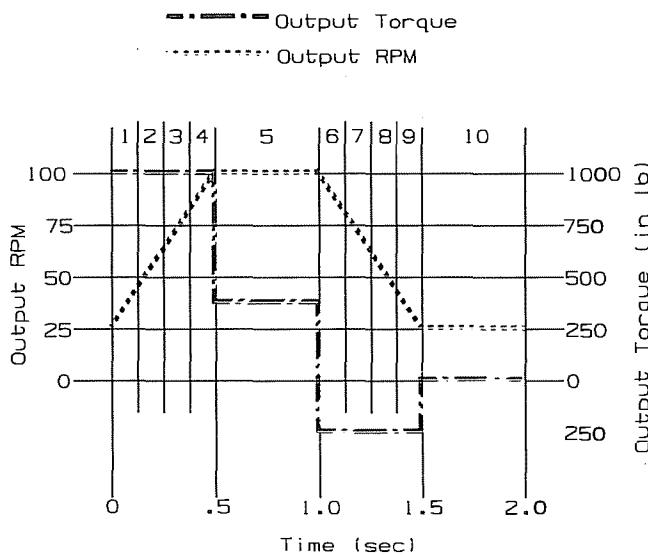

FIGURE 1
3. A. Review the load and speed curves as defined by the application (see Fig. 1 for an example). Separate one complete cycle into convenient increments of time for the various load and speed conditions. As the number of increments increase, the chances of unnecessarily oversizing the selection will be reduced. Record the time interval, maximum OPERATING LOAD and maximum RPM for each increment. The OPERATING LOAD can be in terms of HP or torque. RPM and load must
A servo motor is used to drive an S-ELIMINATOR with a cyclic load as shown in Figure 1. The drive will operate 10 hrs. per day, 5 days per week. The maximum operating speed of the servo motor is 2000 RPM.
3. A. Figure 1 has been broken down into 10 increments. For each increment, record the TIME INTERVAL, RPM (output) and OPERATING LOAD (output torque) on the worksheet (see Table 5 on page A7). Calculate and record the DESIGN LOAD by multiplying the OPERATING LOAD by the SHOCK FACTOR.